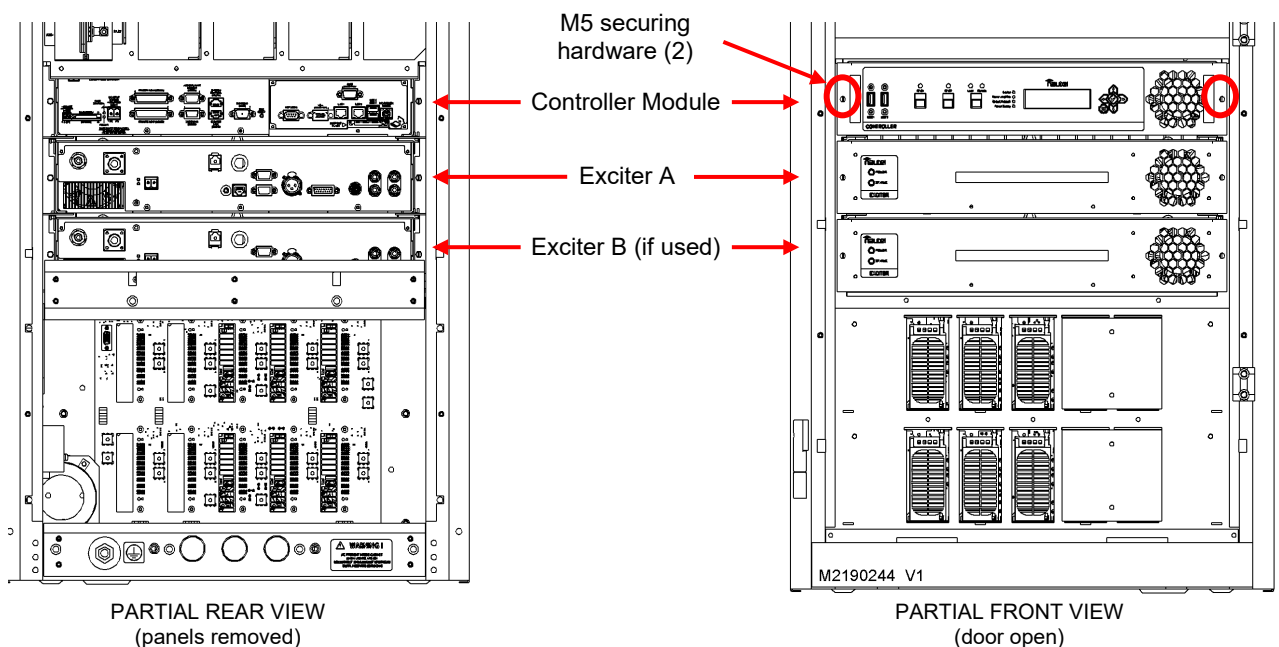

Figure 1: Controller Module and Exciter Locations (GV5/GV3.5 shown for reference)
- (b) Gain access to the controller module (see Figure 1) by opening the front door and removing the upper, rear panel. For GV30N, GV30 and GV40 models, remove the right-hand, upper, rear panel (as viewed from the rear).
- (d) From the front of the transmitter, use a # 2 Phillips screwdriver to remove the two M5 screws that secure the controller module to the transmitter (see Figure 1), and pull out the controller module. Retain the M5 screws.